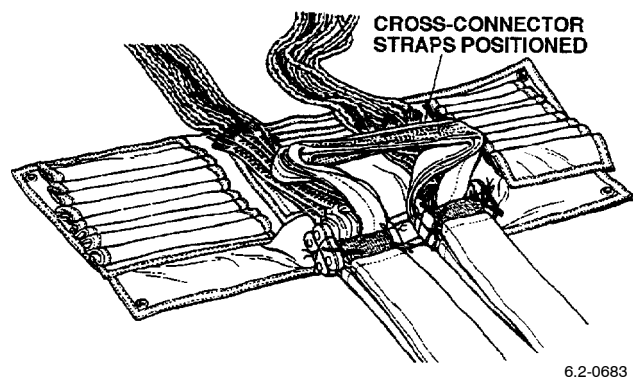

Figure 32. Connector Links Secured, Cross-Connector Straps Positioned
b. Position the suspension line stowage tray under the suspension lines (Figure 32).
lines and position the cross-connector straps centrally on top of the suspension lines (Figure 32).